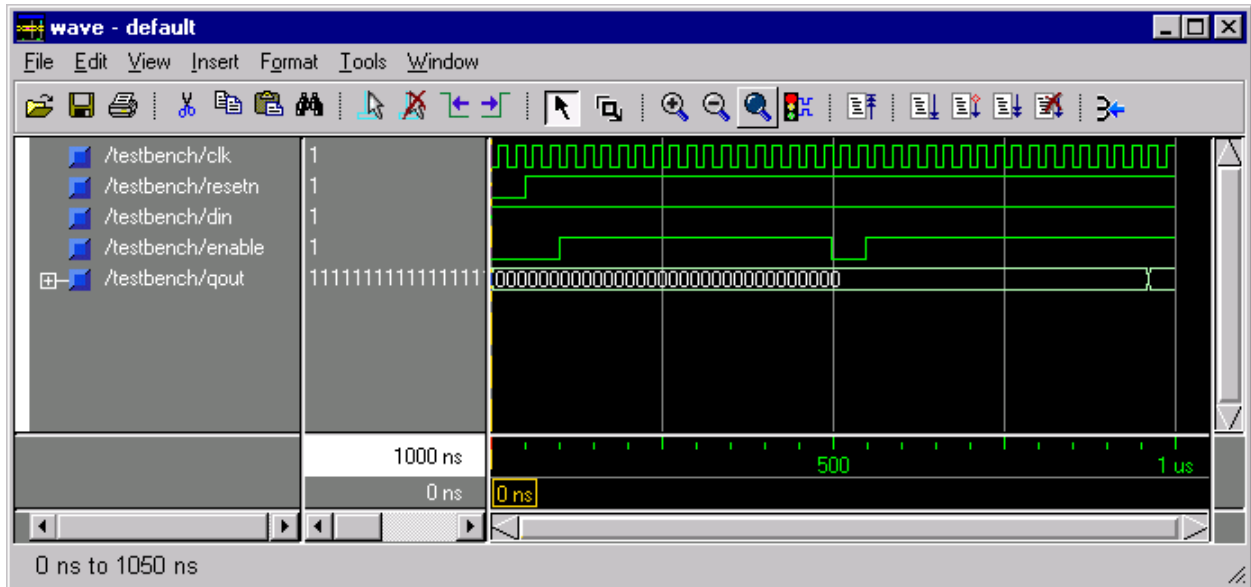

Figure 28 - ModelSim for Actel Wave window for top
- When the compilation completes, the simulator will run for 1 us and a Wave window will open to display the simulation results (Figure 28). Scroll in the wave window to verify the counter functions properly.